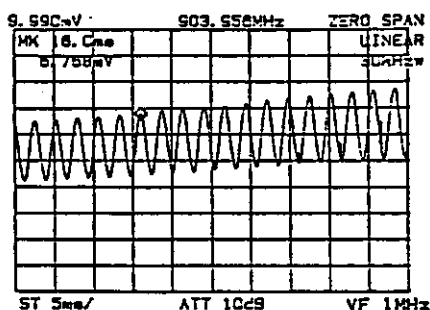

Figure 5-5 Reading the Time Display of Marker
- ⑨ Press the ☐ CTR FREQ key and turn the  to adjust the signal level to make it the maximum.
- ⑩ Press the ☐ TRIGGER SAMPLE DET key and set the trigger mode to VIDEO.
- ⑪ Press the ☒ POS PK DET key and set the sweep time to a value that can be observed easily.
- ⑫ Press the ☐ MARKER and turn the  to set the marker to the peak of the modulation signal. Keep recording the time indication of the marker at this time (Figure 5-5).